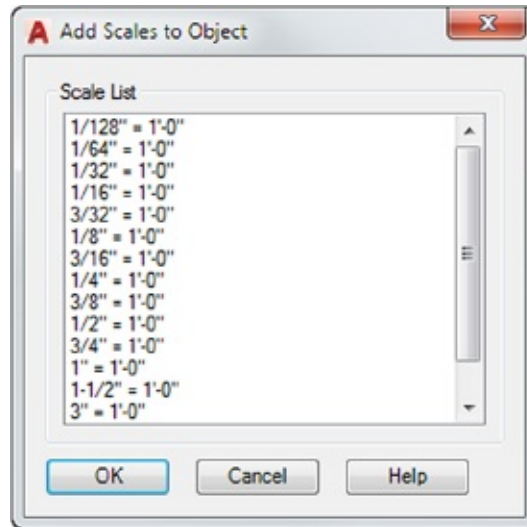

FIGURE 4.14 The Add Scales To Object dialog box
3. Click the Add button. The Add Scales To Object dialog box appears (see Figure 4.14).